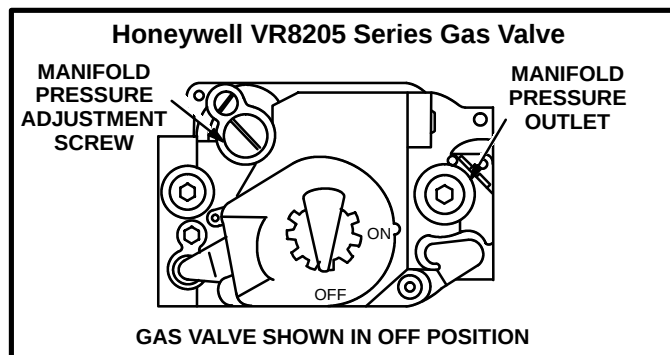

FIGURE 5
- Honeywell VR8205 Gas Valve* - Turn knob on gas valve clockwise to **OFF**. Do not force. See figure 5.